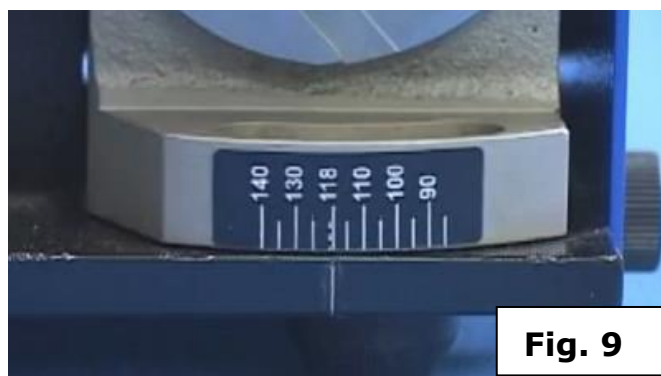

**Fig. 7**
- The leading edge of the chuck and the major cutting edge of the drill should be two parallel lines! (Fig. 7)